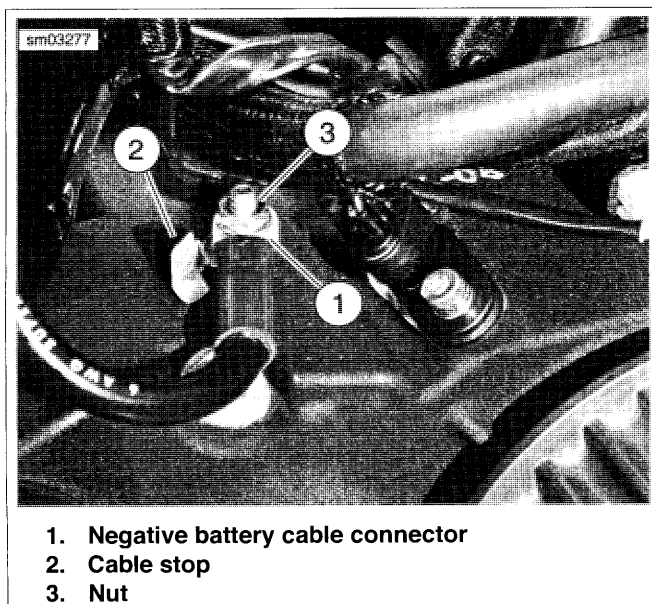
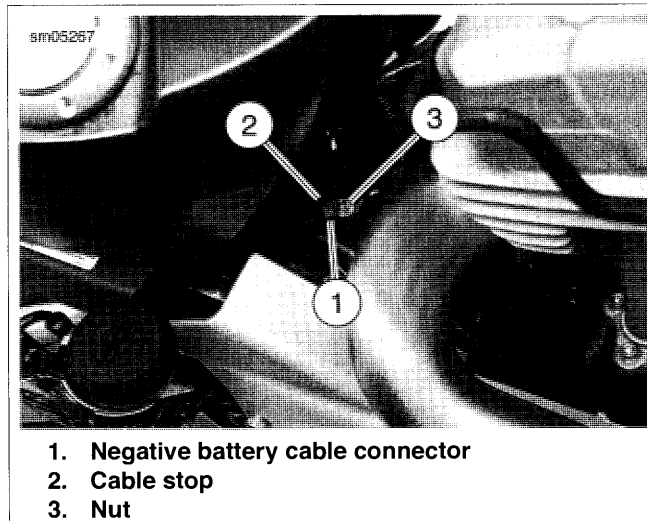

Figure 1-69. Attaching Negative (-) Battery Cable to Ground Stud Crankcase: XL Models
Figure 1-70. Attaching Negative (-) Battery Cable to Ground Stud Crankcase: XR Models
13. See Figure 1-69 or Figure 1-70. Press negative (-) battery cable connector (1) against cable stop (2) on crankcase and tighten nut (3) to 55-75 **in-lbs** (6.2-8.5 Nm).